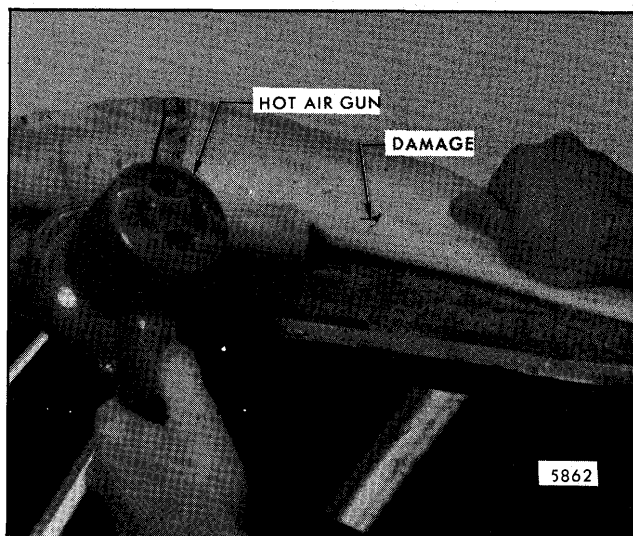

Fig. 8-17-Separating Roof Cover From Foam Pad - Heat Application
8. Apply heat sparingly between roof cover and pad to permit easier separation of cement bond (Fig. 8-17).